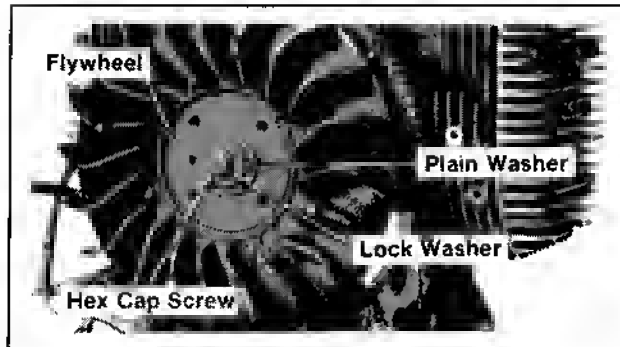

Figure 9-17. Removing Flywheel Fastener.
2. Hold the flywheel with the strap wrench and loosen the hex. cap screw. Remove hex. cap screw, split lock washer, and plain washer. Refer to Figure 9-17.